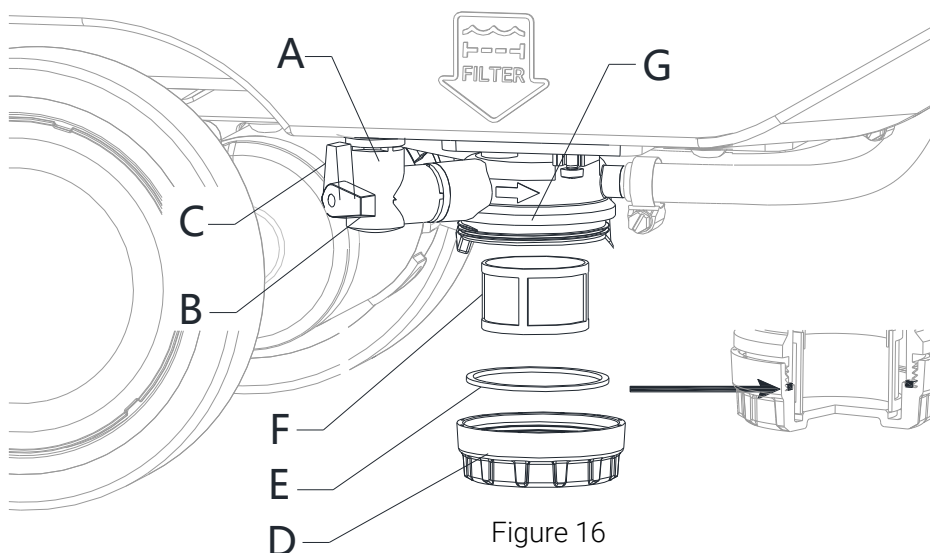

Figure 16
3. Close the detergent solution tank valve (A, Fig. 16). The valve is closed when it is in position (B) and it is open when it is in position (C).
4. Remove the filter cover (D) and the gasket (E), then remove the filter strainer (F). Wash and rinse them, then refit them carefully onto the filter support (G).